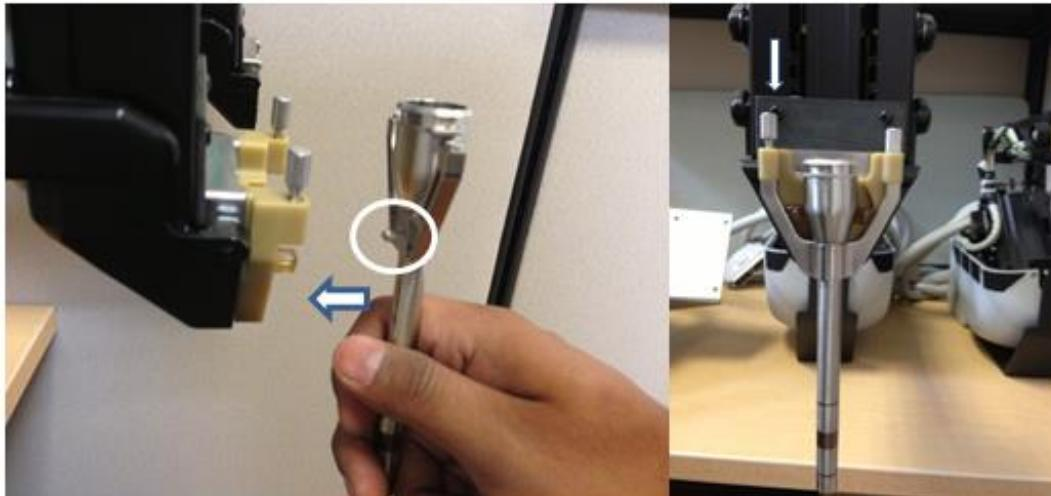

FIGURE 30: INSTALLING THE CANNULA.
2. Once in place fasten the cannula by the two screws present on the cannula holder as shown in Figure 30. Be careful to avoid cross-threading!